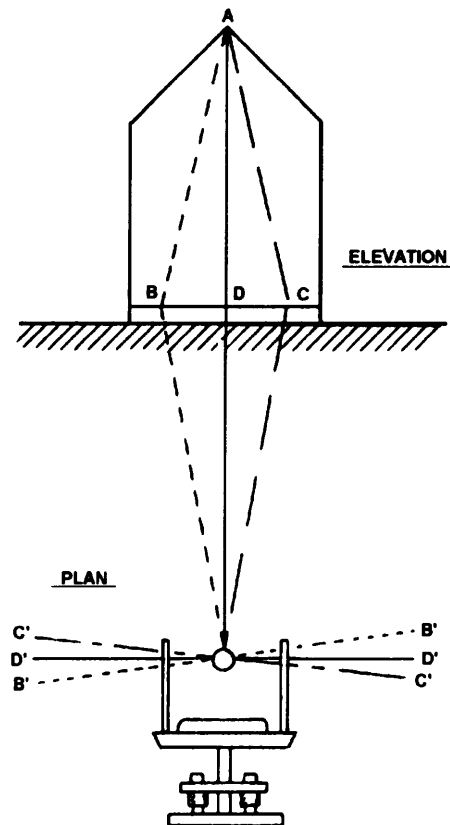

Figure 6-7.—Adjusting the horizontal axis.
**ADJUSTING THE HORIZONTAL AXIS.**— When you plunge the telescope, the line of sight should generate a truly vertical plane. For this to occur, the horizontal axis of the telescope must be perpendicular to the vertical axis. To make the horizontal axis of the telescope perpendicular to the vertical axis (fig. 6-7), you should perform the following steps: